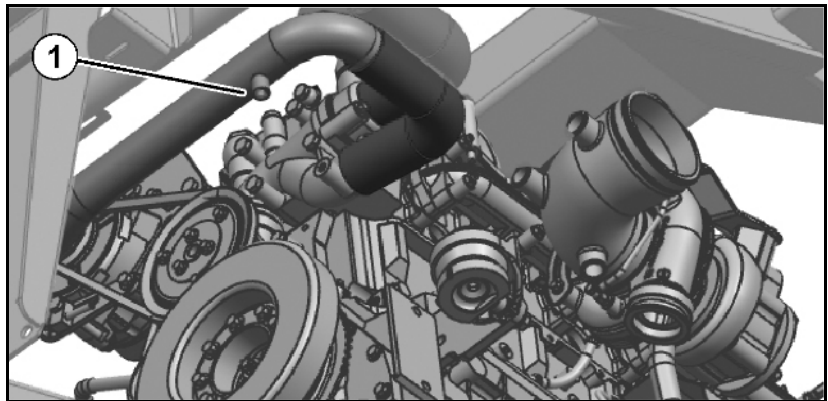

Fig. 170
1. Press the tensioning roller (Fig. 170/1) using a socket (Fig. 170/3) in the direction of the arrow until a Ø6 mm retention pin (Fig. 170/4) can be fixed in the assembly bore.
Now the ribbed V-belt (Fig. 170/2) is free of tension.
2. First remove the ribbed V-belt (Fig. 170/2) from the smallest roller or from the tensioning roller.
4. Apply a new ribbed V-belt (Fig. 170/2).
6. Retension the ribbed V-belt using the tensioning rollers and socket (Fig. 170/3). Check if the ribbed V-belt is fitted correctly in its guide.